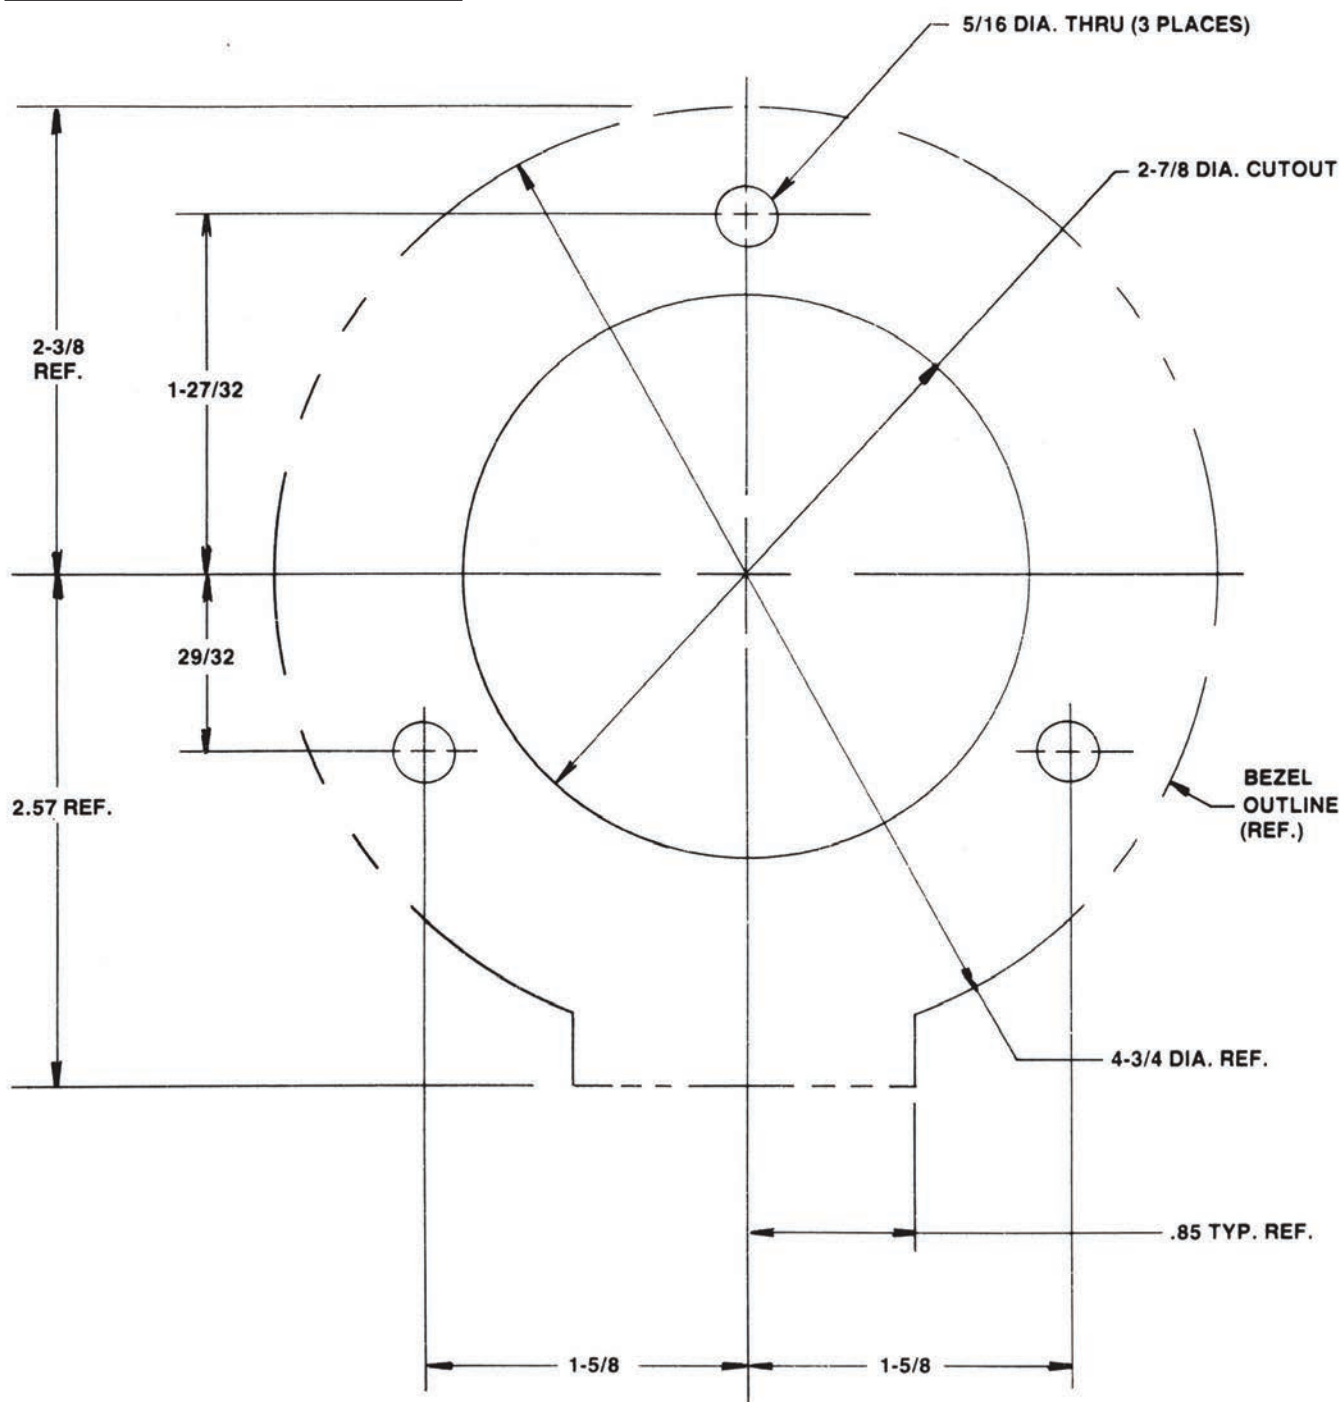

Figure 3.
STEP 2. Position the template (figure 3) on the console or dashboard at the location previously marked, and drill three holes 5/16" diameter and one hole 2-7/8" diameter.
Referring to figure 3, below: Secure the helm mounting plate (item 3) in position using three each of the 2-1/8" long hex bolts (item 4), large OD flat washers (item 6), and locknuts (item 8). Be sure the washers are on the inside of the dash as shown. Tighten securely.
Referring to figure 3, above for the most common applications: Insert shaft of helm (item 1) through hole in the mounting plate so that the helm's cable entry spigot is facing starboard when viewed from the front of the dash. Attach the helm securely to the mounting plate using washers (item 7) and hex bolts (item 5) threaded into the helm.